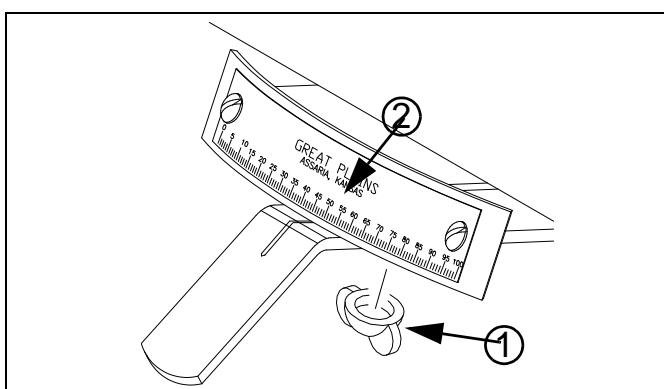

Figure 5
**Set Seed-Rate Handle****Refer to Figure 5**